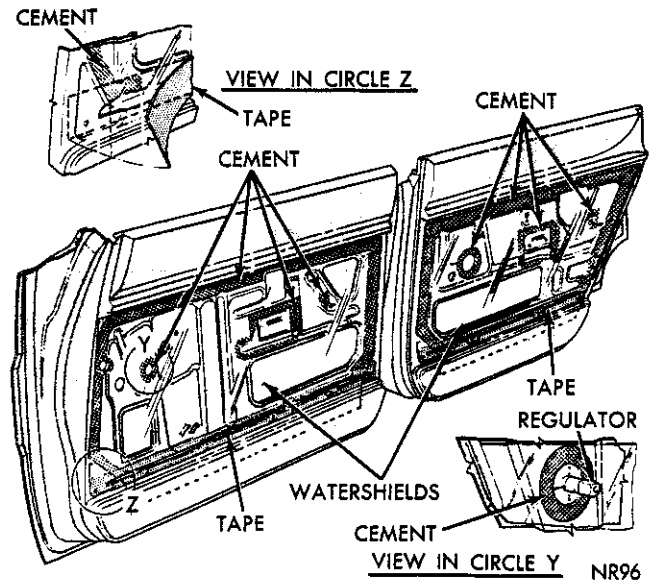

Fig. 18—Door Watershields
- (1) Remove inside handles and arm rests.
- (2) Remove trim panel to door panel screws.
- (3) Insert a wide blade screw driver between trim panel and door next to the retaining clips. Snap clips out of door panel and remove trim panel.
- (4) Before installing trim panel, make certain the watershield is properly cemented in place (Fig. 18).
- (5) With escutcheon spring placed on regulator shaft align trim panel retaining clips with holes in door and bump into place with heel of hand.
- (6) Install trim panel to door screws, escutcheon washer, handles and arm rest.